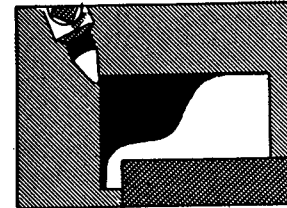

FIG. 498
3. Move the work to the right of the tool; then move the tool down $1/8"$ to $1/4"$ according to the desired depth of cut (Fig. 498).